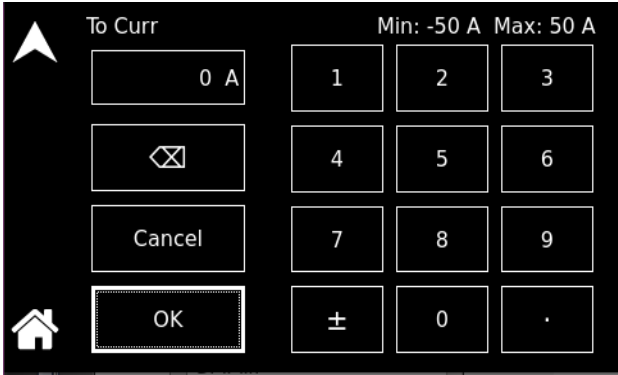

Figure 10-76. To Current
**To Curr** Sets the end current for the ramp. Refer to Figure 10-76.